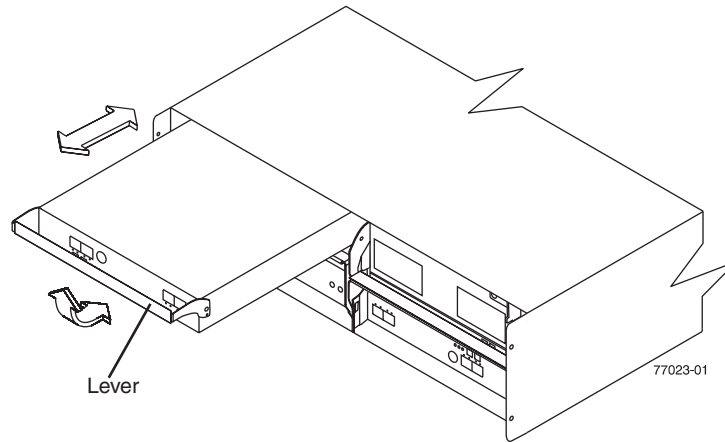

Figure 19. Removing and replacing an Environmental Services Monitor (ESM)
1. Slide one ESM into the empty slot in the storage expansion enclosure. Be sure that the lever is pulled straight out as you slide the ESM in, as shown in Figure 19 on page 35.